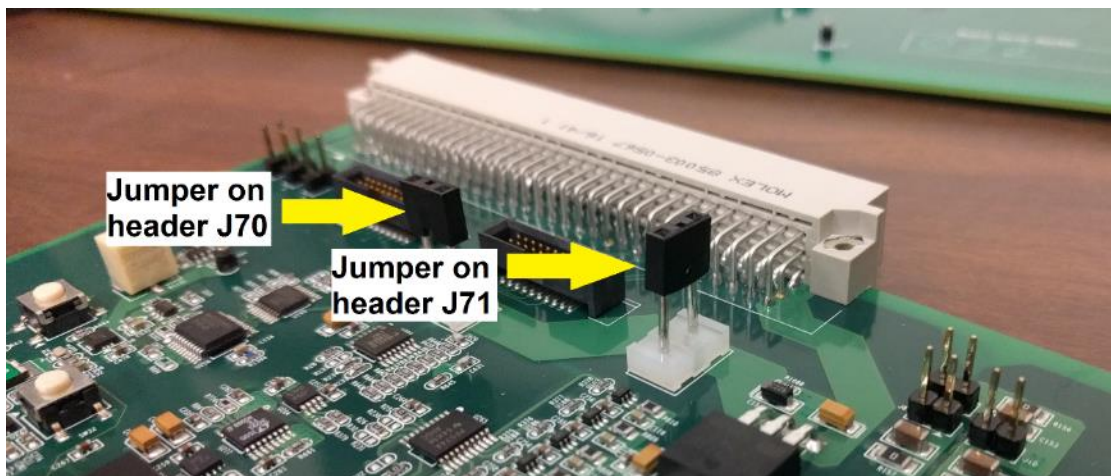

Figure 7: Power board jumper configuration without a 6U VME crate (single module testing only)
- 3) Load a 0.2" jumper on header J70 and another 0.2" jumper on header J71 (see Figure 7)